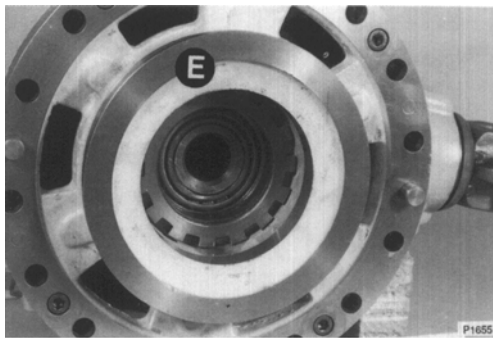

Fig 59.
- Remove and discard seals **F** and **G**. Inspect the housing bore for damage and scoring. Nicks or cuts in the seals may be responsible for loss of brake fluid → Fig 59. (□ 65).